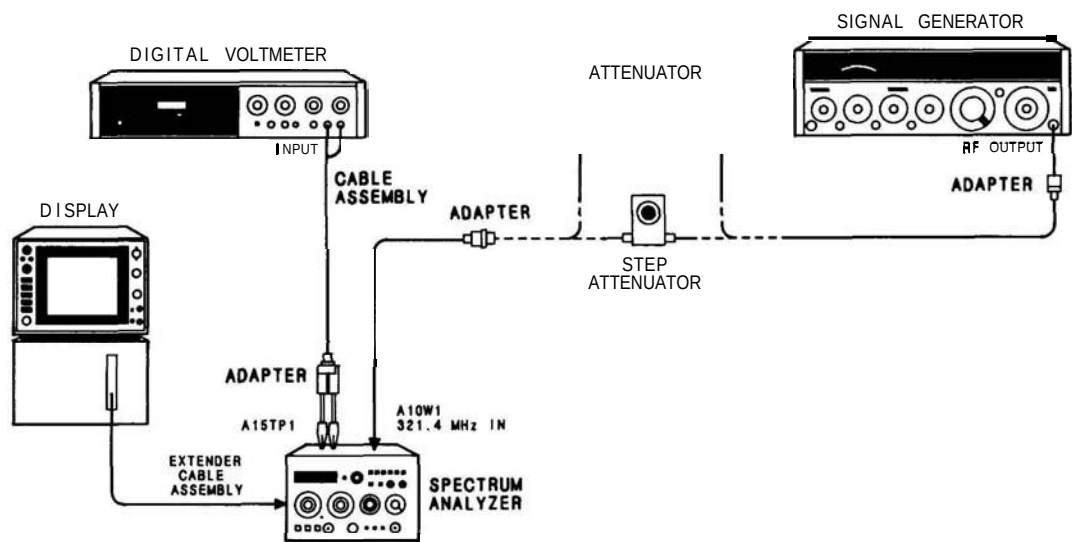

FIGURE 5-10. STEP **GAIN** ADJUSTMENT TEST SETUP
2. Connect equipment as shown in Figure 5-10. Connect signal generator tuned to 321.4 MHz with approximately -30 dBm output to one side of a 1 dB/step attenuator. Connect step attenuator to A10W1 through adapter. Tune signal generator frequency for peak amplitude on display.